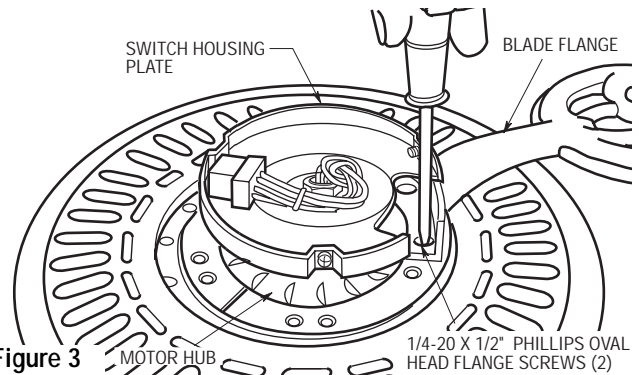

Figure 3
- 8. Rotate the motor hub until the flange screw hole is next to the cutout in the switch housing plate. Attach one blade assembly to the motor hub using two 1/4-20 x 1/2" Phillips oval head flange screws. Make sure the screws are **NOT** tightened. (Figure 3.) Repeat this procedure for the other four blade assemblies.